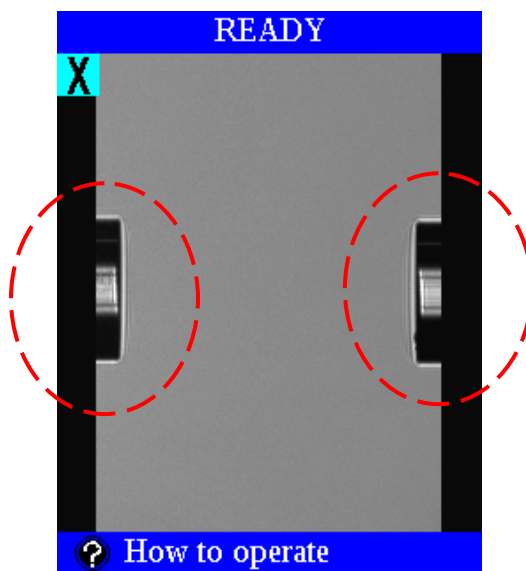

Figure 6.3. Best fiber loading position for splicing before tapering. The red dashed-line circles indicate the critical location for taper processing.
After the initiation process, the fiber holders may be far away from the center compared to ordinary splicing. If you are going to splice fibers before tapering, you need to manually adjust the fiber in the fiber holder to position the fiber end as close to the screen edge as possible. It is best if you can see the cleaved fiber ends on the edge of screen as shown below in Figure 6.3. If you do not pay attention to the initial fiber starting position, the fiber and V-groove may be automatically moved forward to a **GAP** position that is too close to the heating area at the center of the screen. This may either cause a lack of space for motors to travel, or in some cases this may even burn the fiber clamps since one of the V-grooves and fiber clamps may be moved into the heating area.
2. Load the fibers with the fiber end location shown in Figure 6.3.
To taper without splicing, the correct splicing mode needs to be selected with correct fiber diameter information for the v-groove alignment. **Pause 2** should set **ON**, and motor position should be set to **KEEP** after the alignment (except Z stages). Before tapering window stripped fiber or capillary, the splicer needs to be aligned with two cleaved fibers. The fiber should have the same diameter as the fiber to be tapered and should be loaded to splicer as shown in Figure 6.3 after the Initiation process. The correct procedure for v-groove alignment is described below:
2. Load the fiber ends to the location shown in Figure 6.3
The tapering process is straight forward with ZL&ZR motors. After loading two cleaved fibers according to the illustration in Figure 6.3 for splicing before tapering; or a window stripped single fiber (with manually applied low tension), the tapering process can be performed by pressing the **SET** button on the splicer. For the single fiber tapering, **SET** button needs to be pressed once more when the **Manual Alignment** window is shown in the monitor. However, for SWP&ZR tapering mode, you have to manually move the Sweep motor to the correct initial position, since the sweep motor is always being sent back to its home position after the tapering by **Special Function**.
3. For splicing, load the right fibers with the fiber end location shown in Figure 6.3. Or for tapering with single fiber, load the fiber to on both sides with a little tension.